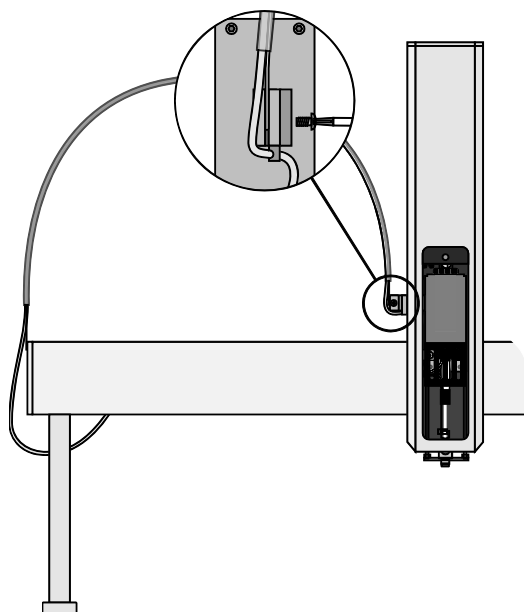

Figure 12. Guide Wire connected to the Heated Cartridge.
1. The heated cartridge is prepared such that the electrical cable for the Trap Heater is attached to the side adapter of the heated cartridge. Check the assembly by comparing the details as shown in Figure 12.